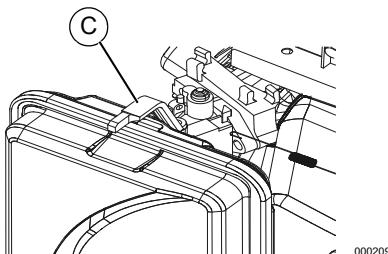

Figure 3-3.Choke Position
5. Slide engine choke (C) to Full CHOKE position (left). See **Figure 3-3**.